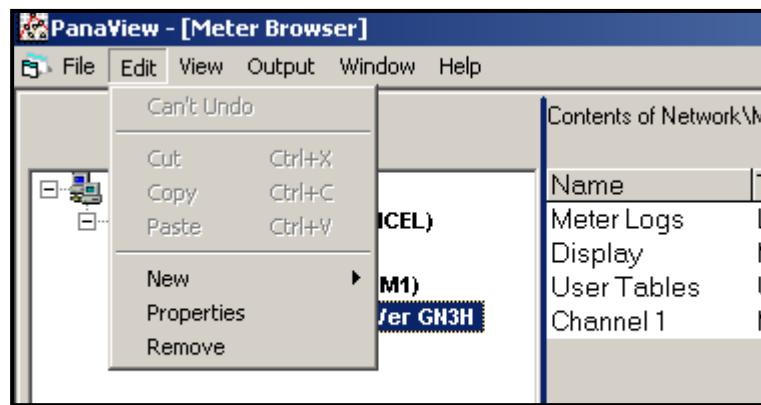

Figure 25: *Properties* Option in the *Edit* Menu
2. Open the “Edit” menu and select the “Properties” option, as shown in *Figure 25* below.